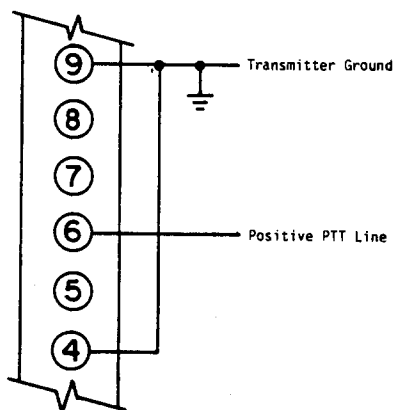

Figure 4.
3. PTT Lines. Strap the PTT output for either positive or negative operation as shown in Figures 4 and 5. If the open PTT line is a positive voltage, connect the PTT line to Terminal 6 and jumper Terminals 4 and 9 as in Figure 4.